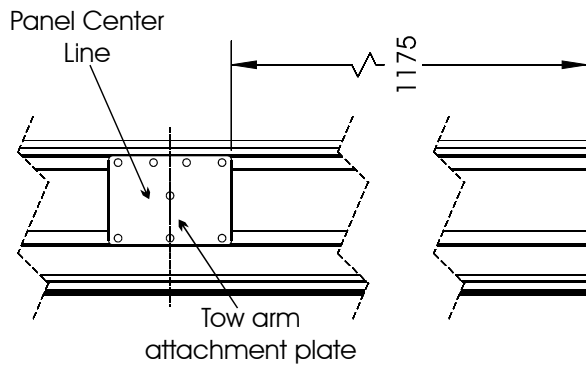

Fig. 2
- 1 Place the door tow arm bracket in place as shown in fig. 2. The top edge of the bracket must be flush with the top edge of the mounting flange on the panel.